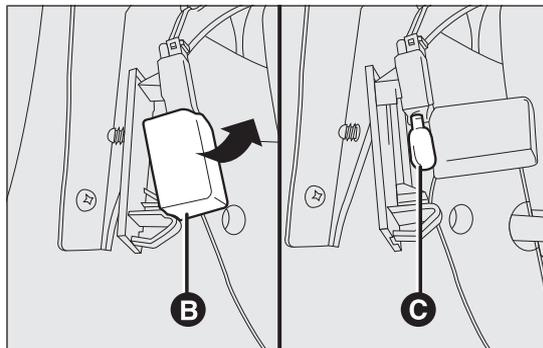

fig. 125
- open the bulb cover B fig. 125 and replace the pressure-fitted bulb C fig. 125;